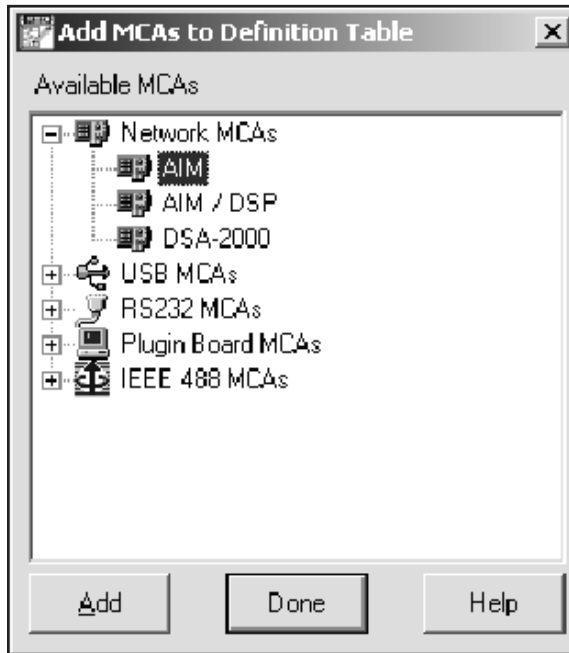

Figure 4 The ADD MCA Dialog
2. Select **Edit | Add MCA**. This will bring up a list of MCAs, grouped by board type (Figure 4).
Note: Figure 4 shows the MID Editor's Add MCA dialog for Genie 2000 V2.1 and later. Earlier versions of the MID Editor do not group MCAs by board type.